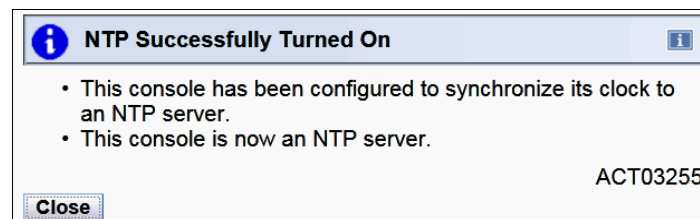

Figure 8-11 NTP Successfully Turned On window
- After processing is completed, the NTP Successfully Turned On window opens (see Figure 8-11). Click **Close**.